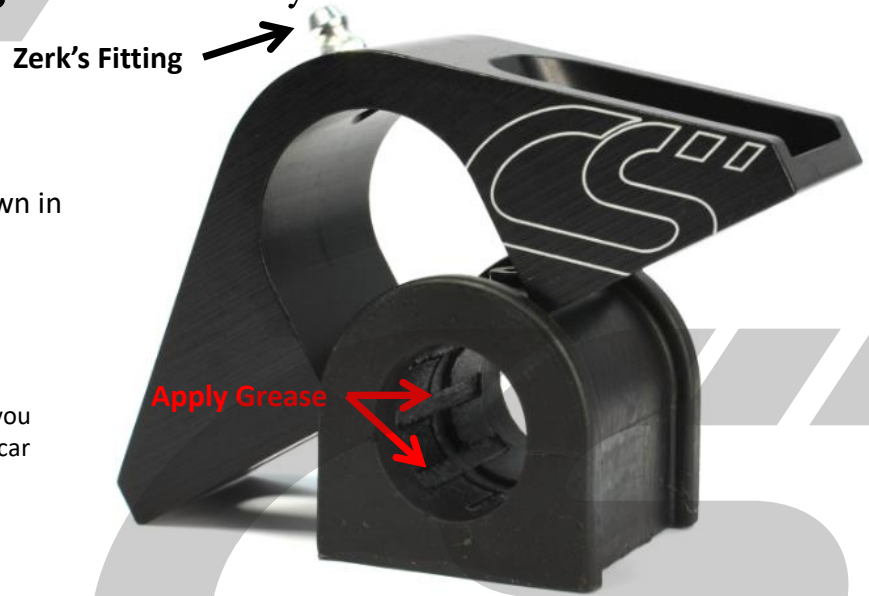

Figure 3a
- a) Apply grease around the inside of the bushings. Make sure to fill the ribs shown in Figure 3a.